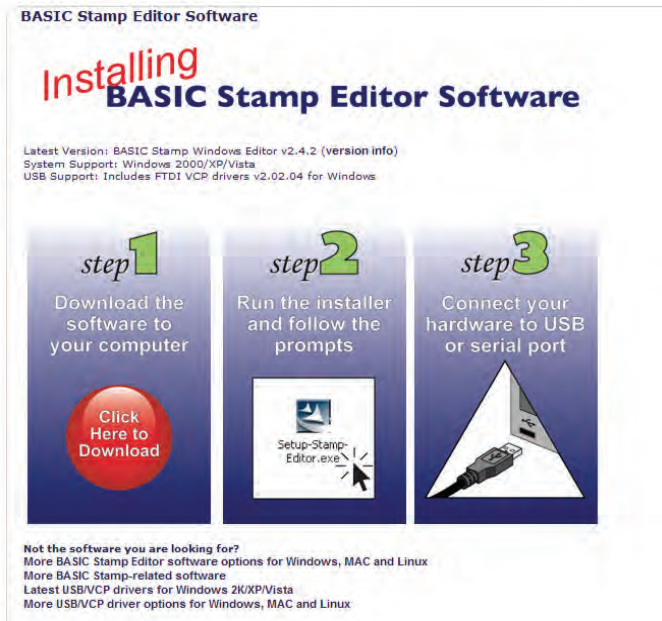

Figure 1-8
- ✓ Using a web browser, go to www.parallax.com/basicstampsoftware (Figure 1-8).